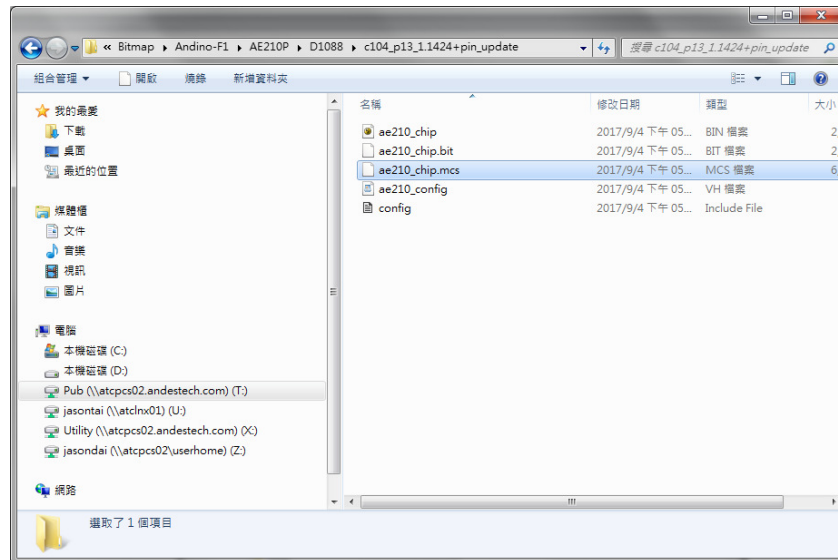

Figure 13. Specify the bitsream file for FPGA configuration
- ❖ Select “ae210_chip.mcs” or “ae210_chip.bin” from working directory and then click “OK” as Figure 13.